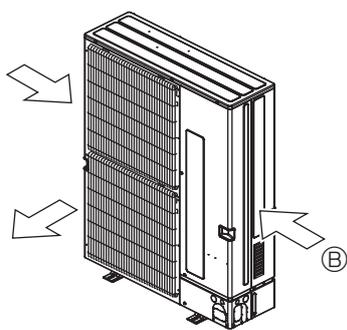

Fig. 2-17
- 2 Position the unit so that the air outlet blows perpendicularly to the seasonal wind direction, if possible. (Fig. 2-17)